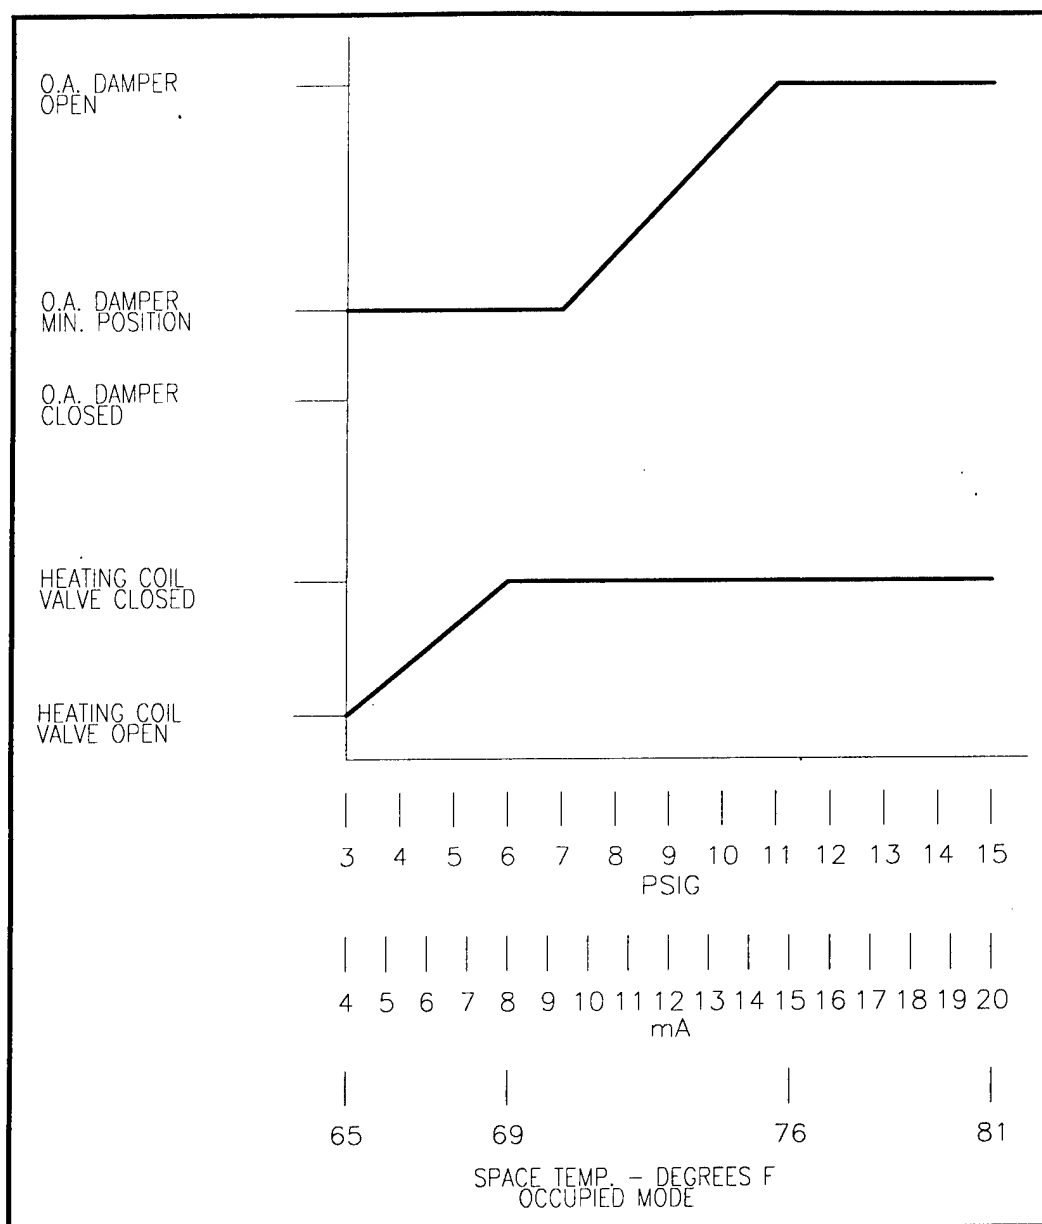

Figure 4. Typical sequencing schedule.
Sequencing schedules (Figure 4) illustrate the relationship between the process variable (temperature, pressure, flow, relative humidity) and the positions of the controlled devices when the control system is in the occupied mode. Information provided in the sequencing schedule includes the relationship between the Process Variable (PV) space temperature ($^{\circ}\text{F}$ sensed by controller TC XX-01), the controller output signal in milliamps, and the current to pneumatic transducer (IP XX-01 and IP XX-02) output signals in units of pounds per square inch.